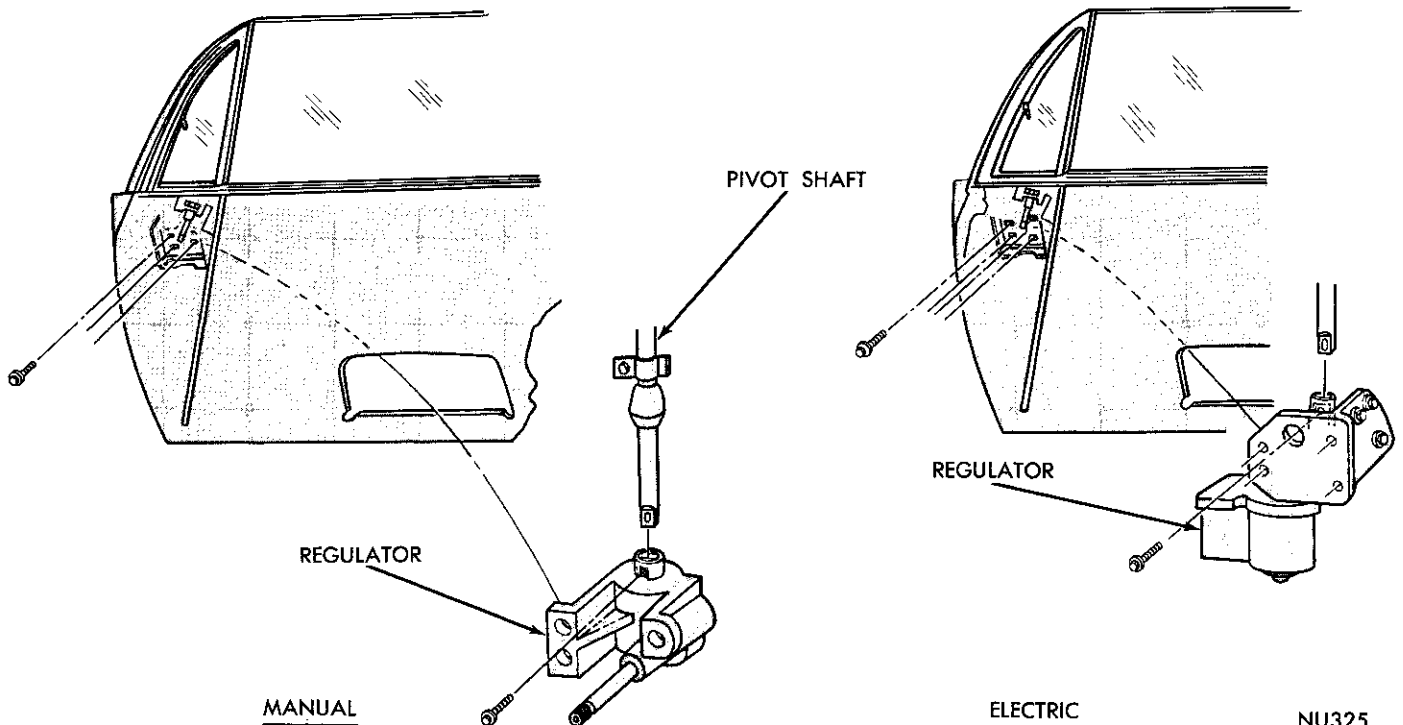

Fig. 49—Vent Wing Regulator
- (1) With vent wing open, remove screws attaching regulator to door inner panel belt reinforcement (Fig. 49).
- (2) Remove shaft to coupling screw.
- (3) Move regulator off of vent wing pivot shaft.
- (4) Remove regulator through large access hole in door panel.